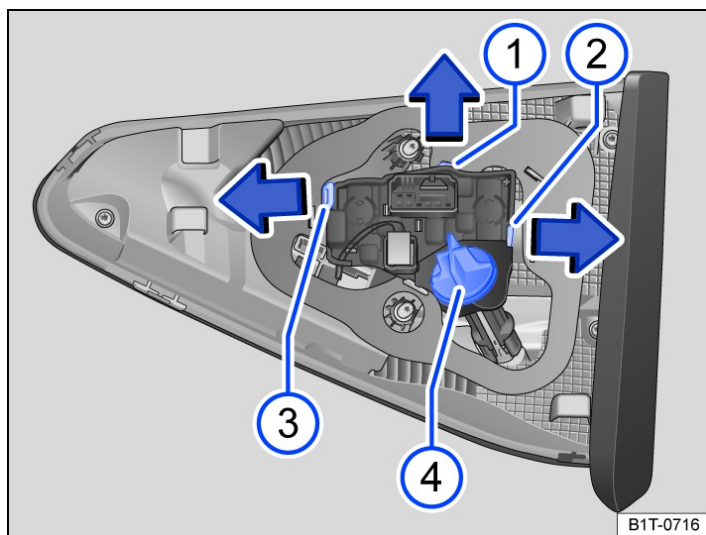

Fig. 2 In the tailgate: removing the bulb holder.
5. Changing the reversing light: turn the bulb holder → Fig. 2 ④ anticlockwise as far as it will go and pull it out to the rear together with the bulb.
Changing the tail light: to release the bulb holder, push the tabs → Fig. 2 ① to ③ in the direction of the arrows and pull out the bulb holder to the rear.